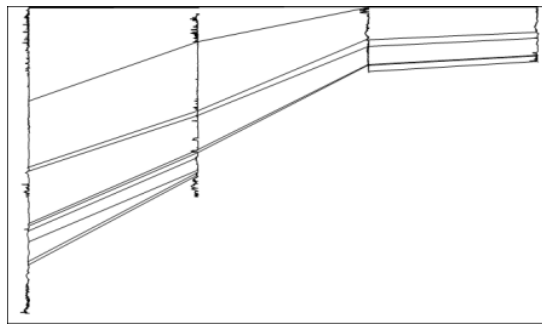

Figure 1.206 – The logs are connected with the layer marks from the Tops table
8. Click *Yes* in the warning dialog and the layer lines are displayed, fig. 1.206.